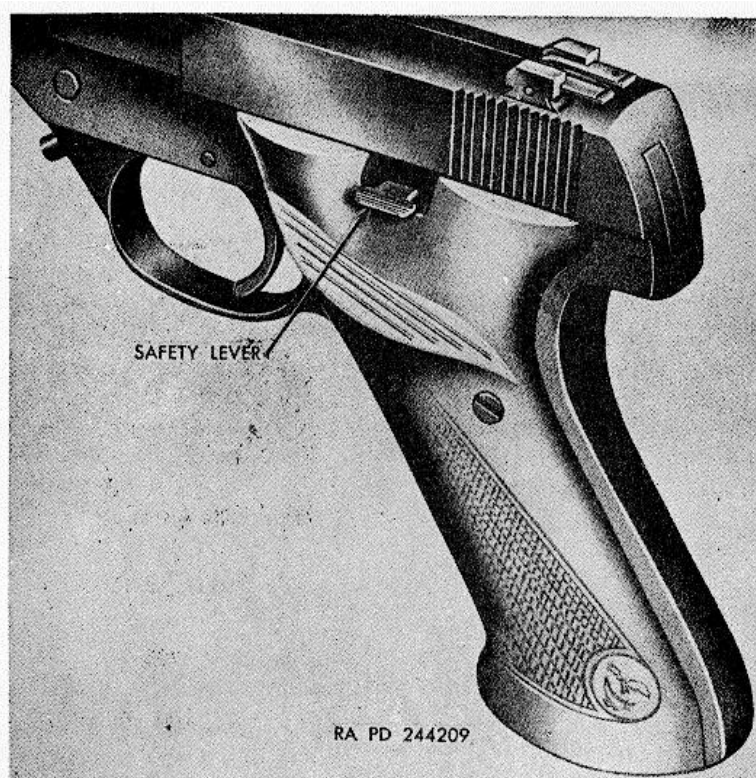
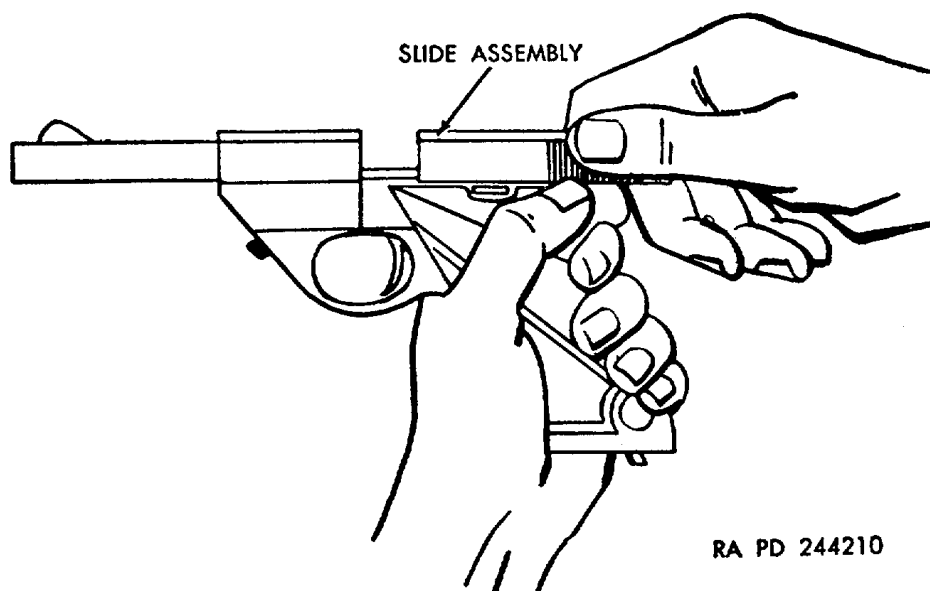

Figure 14. Safety lever in fire position (high standard).
Figure 15. Retracting the slide assembly (high standard).
- (1) The safety lever (fig. 14)is located at top left side of the frame. It acts on the sear to prevent release of the hammer.
- (2) Move safety lever up to put pistol on SAFE position. Move safety lever downward to put pistol in FIRE position.
- (3) The safety lever in SAFE position locks the slide assembly (fig. 15) in place.
- (1) The slide assembly (fig. 15) is located to the rear of the barrel assembly. It contains the firing pin group, driving spring group, and extractor group.
- (2) Drawing back on the slide assembly cocks the hammer.
- (3) A cartridge will be stripped from the magazine assembly and chambered when the slide assembly is allowed to go into battery under the tension of the driving spring.